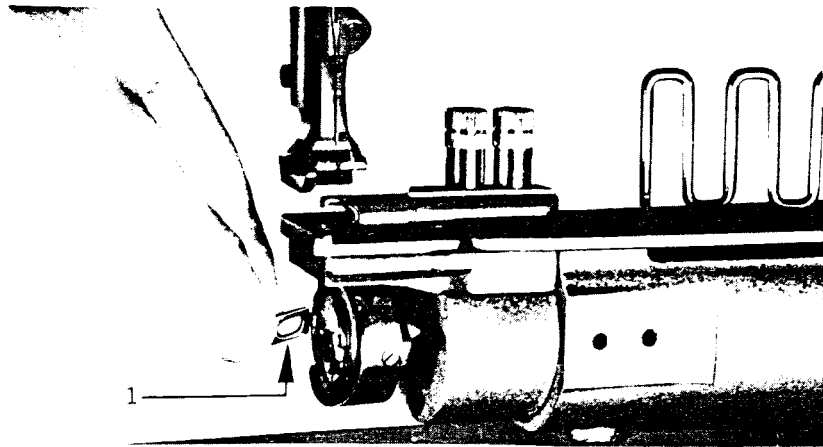

Fig. 5
INSERTING AND REMOVING BOBBIN (Fig. 5 and 6)
2. Pull up the latch (1, Fig. 5) and draw out the bobbin from the bobbin case.
5. Draw out about 5 cm of thread, pull up the latch (1, Fig. 5) keep the slot of the bobbin case facing up and fit the bobbin case into the hook as deeply as it will go. Push down the latch securely.